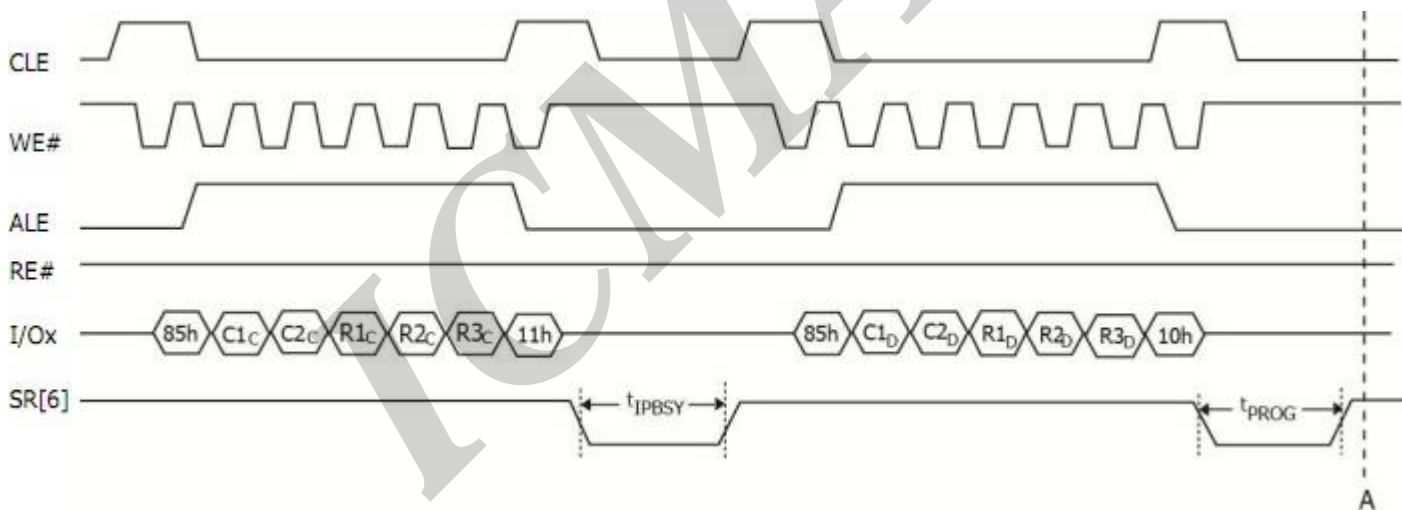

Figure 30 : Multi-plane copy-back program (ONFI 1.0 protocol)
Same restrictions on address of blocks on plane 0(A) and 1(B) and allowed commands as Figure 30 apply